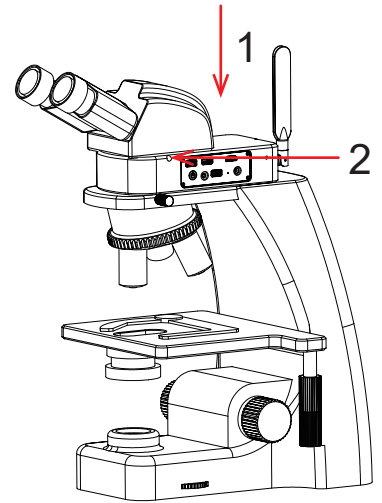

Figure 7
(3) Installation for the objective end of the microscope, as shown in Figure 7: